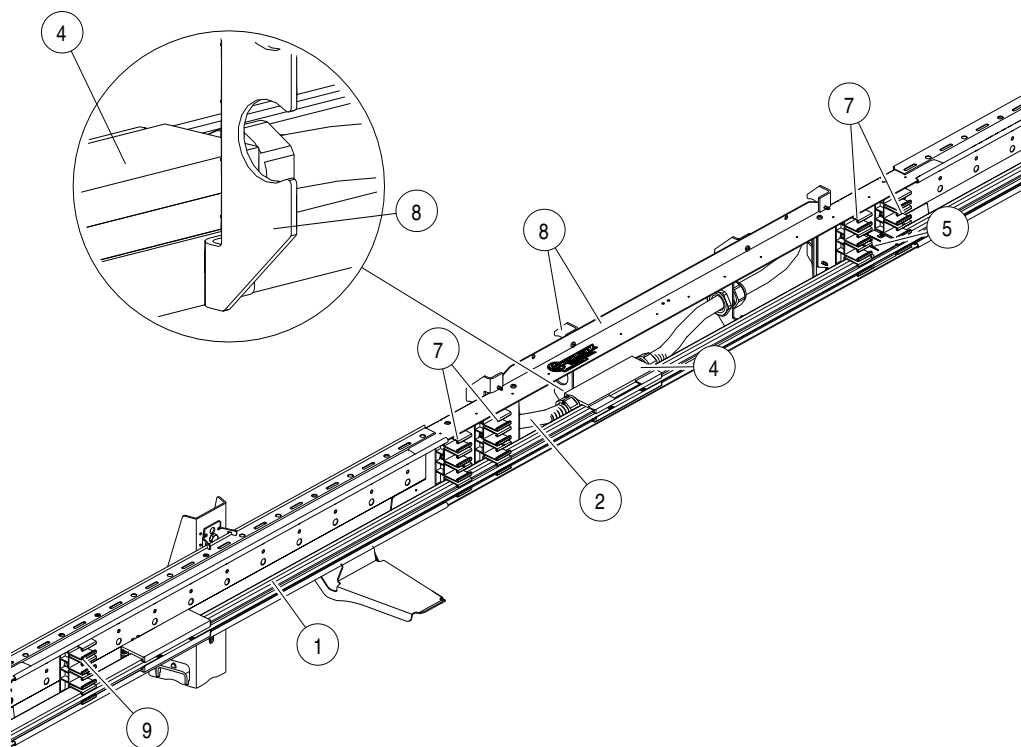

Fig. 47: Install conductor rail (1) on ProShell support profile
4. Hang the conductor rails with the preassembled line feed and anchor point (1) on the hanger clamps (7) on the right and left of the fastening frame (8). Start with the lower-most conductor rail pole and observe the PE position (Conductix-Wampler recommends attaching the PE rail as the last or lower pole (viewed from above)) (see Fig. 47).
5. Lay the connecting cables (2) through the fastening frame to the rear (8) so that the line feed cap (4) fits into the cut-out of the fastening frame (8) and the preassembled anchor points (5) are positioned between their hanger clamps. In addition, hang the connected conductor rails on the additional hanger clamps (9) (see Fig. 47).